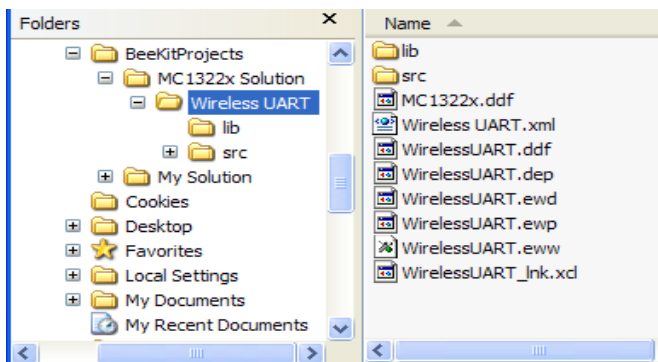

Figure 2-1. BeeKit Created, Wireless UART Directory Structure
8. BeeKit creates the project folder with the structure as shown in Figure 2-1.